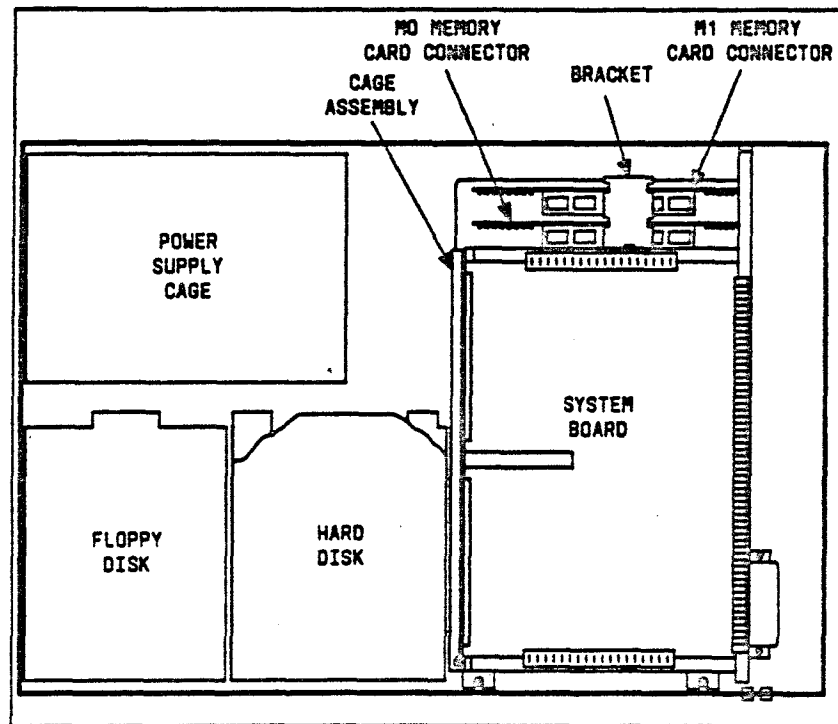

Figure 4-11. Internal View of 3B2/310 Computer
2. With the component side facing toward the cage assembly, hold the memory card over the M0 connector slot. (See Figure 4-11.)